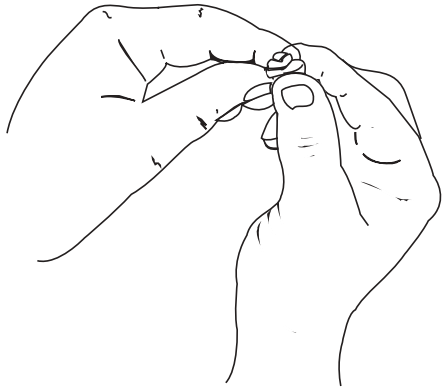

Fig. 35
6. Replace the filter (Fig. 35).